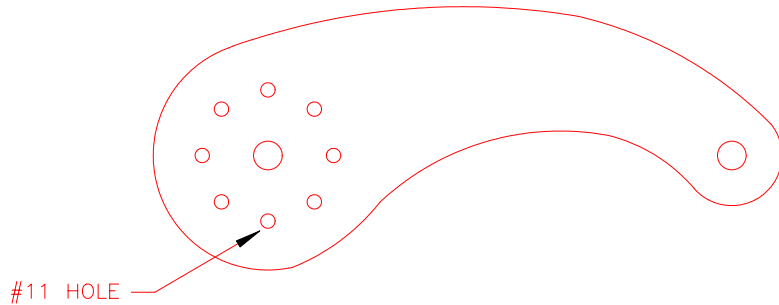

Figure 8.28.1
1) Drill eight #11 holes through control horn into the end plug. Figure 8.28.1.